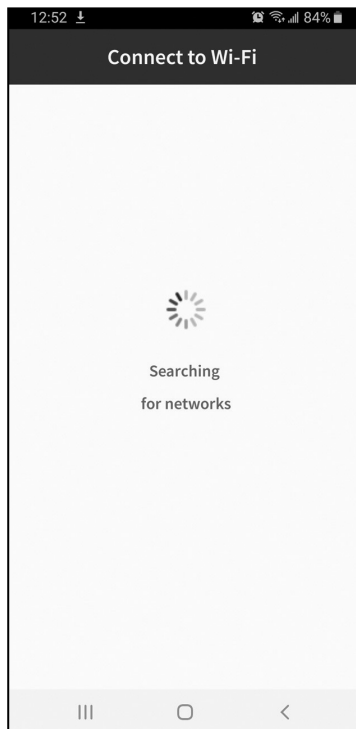

**Fig. 5**
5. Search for devices and select the device from the list (**Fig. 5 & 6**).